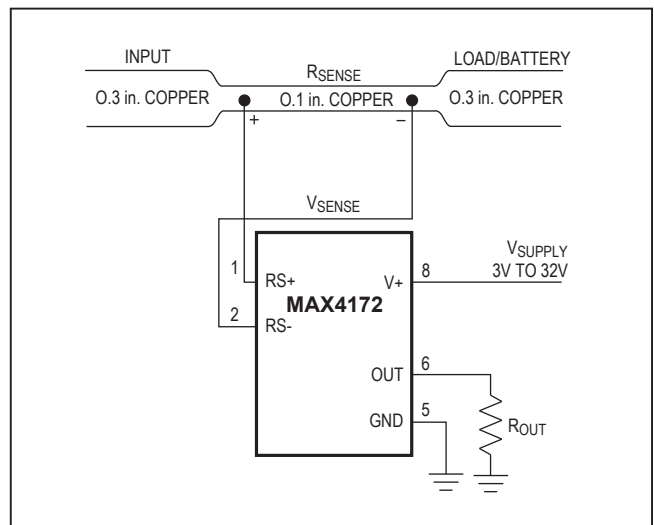

Figure 2. MAX4172 Connections Showing Use of PC Board
- **Cost:** If the cost of RSENSE is an issue, you might want to use an alternative solution, as shown in Figure 2. This solution uses the PCB traces to create a sense resistor. Because of the inaccuracies of the copper resistor, the full-scale current value must be adjusted with a potentiometer. Also, copper’s resistance temperature coefficient is fairly high (approximately 0.4%/°C).
In Figure 2, assume that the load current to be measured is 10A, and that you have determined a 0.3-inch-wide, 2-ounce copper to be appropriate. The resistivity of 0.1-inch-wide, 2-ounce (70µm thickness) copper is 30mΩ/ft. For 10A, you might want RSENSE = 5mΩ for a 50mV drop at full scale. This resistor requires about 2 inches of 0.1-inch-wide copper trace.